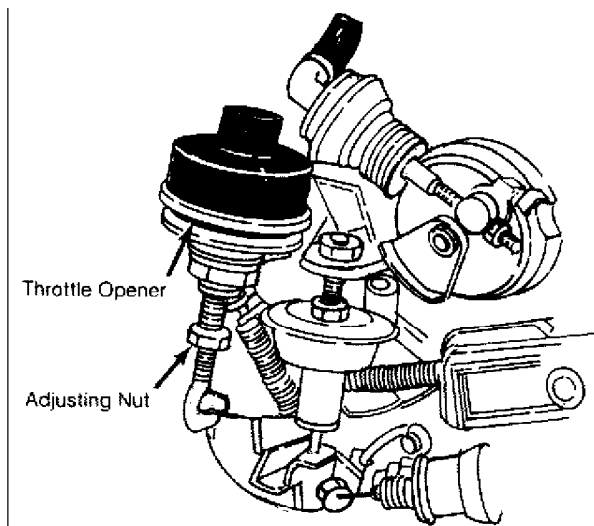

Fig. 7: Throttle Opener Adjustment (A/C Models Only)
- 4) Throttle opener should operate and engine speed should increase to 1150-1250 RPM in Neutral. If engine speed is not to specification, turn adjusting nut shown in Fig. 7.